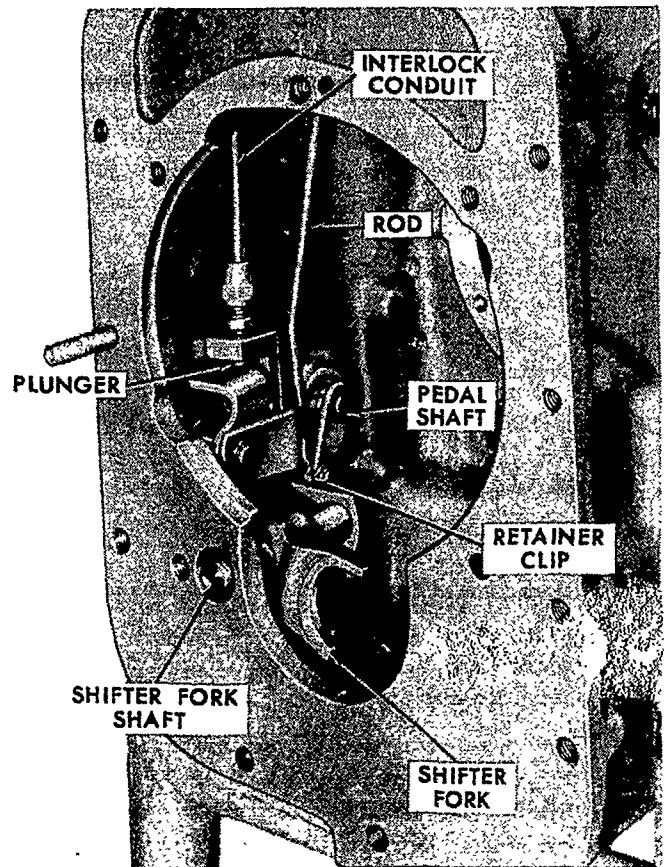

Figure 57
5. Install the P.T.O. interlock cable and conduit in the case, inserting the top through the clamp in the feathering valve lever shaft linkage. The plunger on the bottom of the cable is installed in the shift shaft lever. Secure the conduit fitting to the lever. See Figure 57.